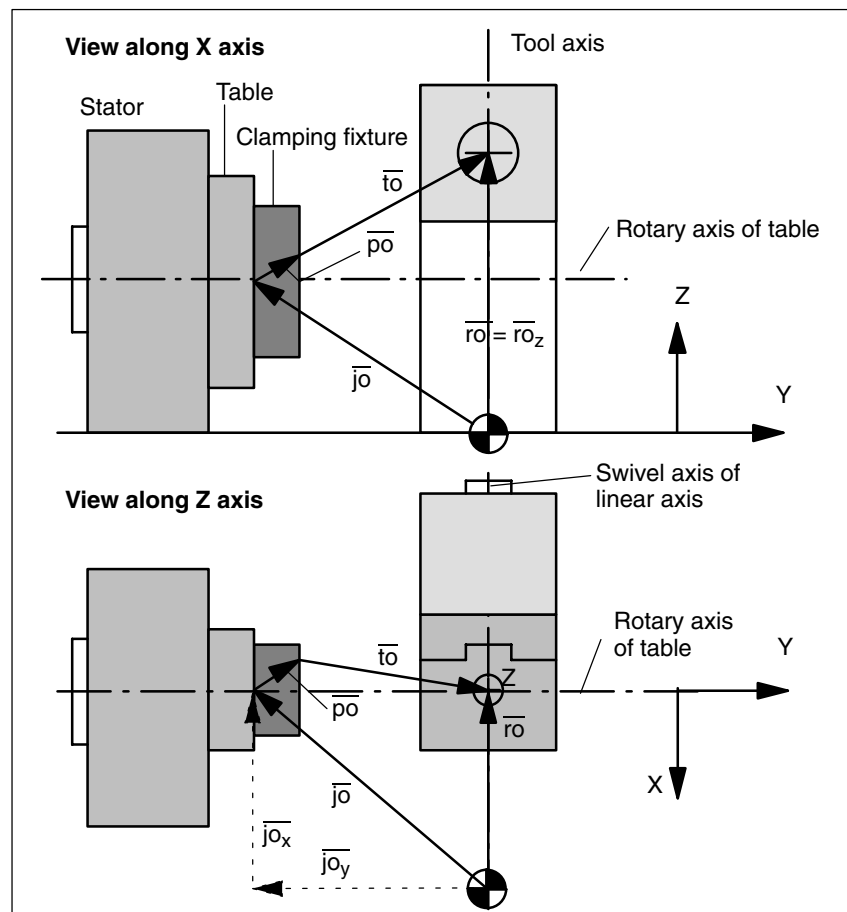

Fig. 2-12 Example of vector designations for MD settings for Fig. 2-11
Fig. 2-12 shows the vector components for the machine represented in Fig. 1-3 with their respective designations.
- Determine the x and y components of the vectors indicated, as shown in the lower section of Fig. 2-12 for vector  $\vec{j}_0$ .